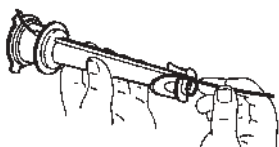

Figure 16
See Maintenance Guidelines (Figure 16) for additional information.
3. Clean Air Ejector Tube with nylon cleaning wand provided (Figure 16).
If air does not evacuate from system (air gap increases and will not stabilize)...	<p>Clean Air Ejector Tube on side of Center Exhaust Tube (Figure 16). Do not remove Air Ejector Tube.</p> <p>Move Intake away from any air bubble source.</p> <p>Check for air entering through O-Ring or D-Ring leaks. Use special Silicon Lubricant (included) as directed and replace damaged parts.</p> <p>Inspect O-Ring and D-Ring for dirt, wear, damage or improper alignment. Reinstall correctly with clean, undamaged parts.</p>